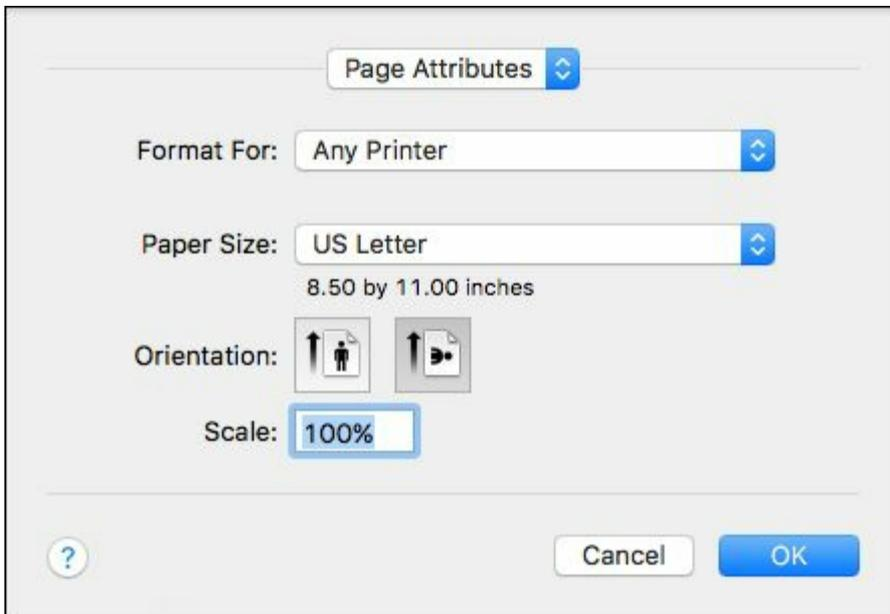

FIGURE 12-5: The Page Setup dialog box on a Mac lets you select a printer, a paper size, and a page orientation.
3. In the Page Setup dialog box shown in Figure 12-5, do the following: